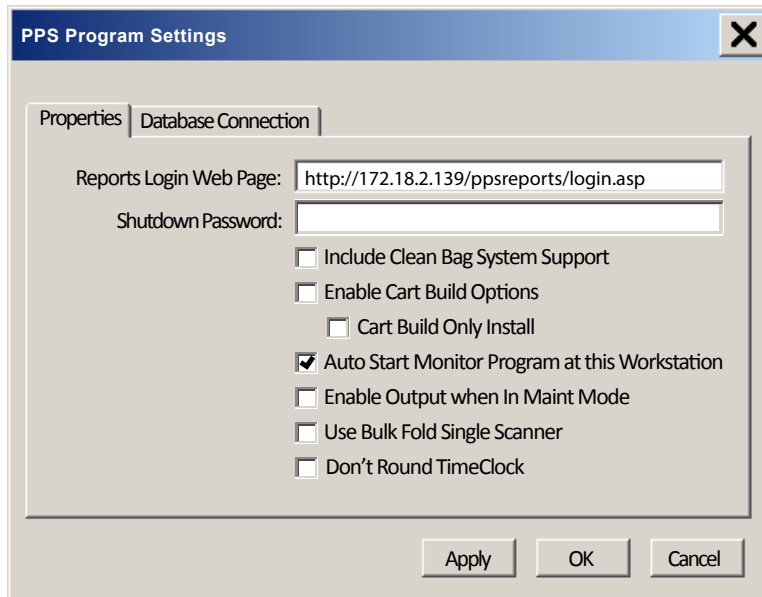

Figure 4. PPS Program Settings: Properties dialog.
12. Click **Apply** (see Figure 4).